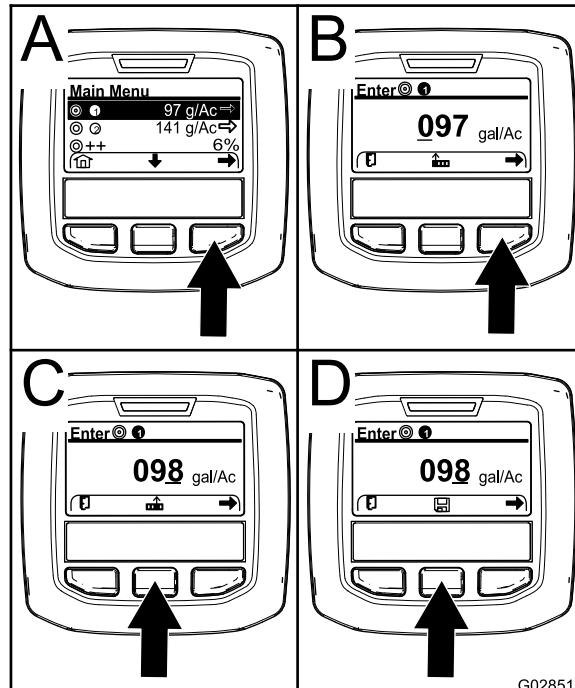

Figure 57
2. If needed, press the center selection button to highlight the application rate for sprayer program 1 (Figure 57).
3. Press the right selection button to select sprayer program 1 (A of Figure 57).
- Press the right selection button (B of Figure 57) to move the cursor to the next numerical position to the right.
- Press the center selection button (C of Figure 57) to increase the numerical value (0 to 9)
- Note:** The Save Icon will appear above the center selection button (D of Figure 57).
- Press the center selection button (D of Figure 57) to save the programming for application rate.